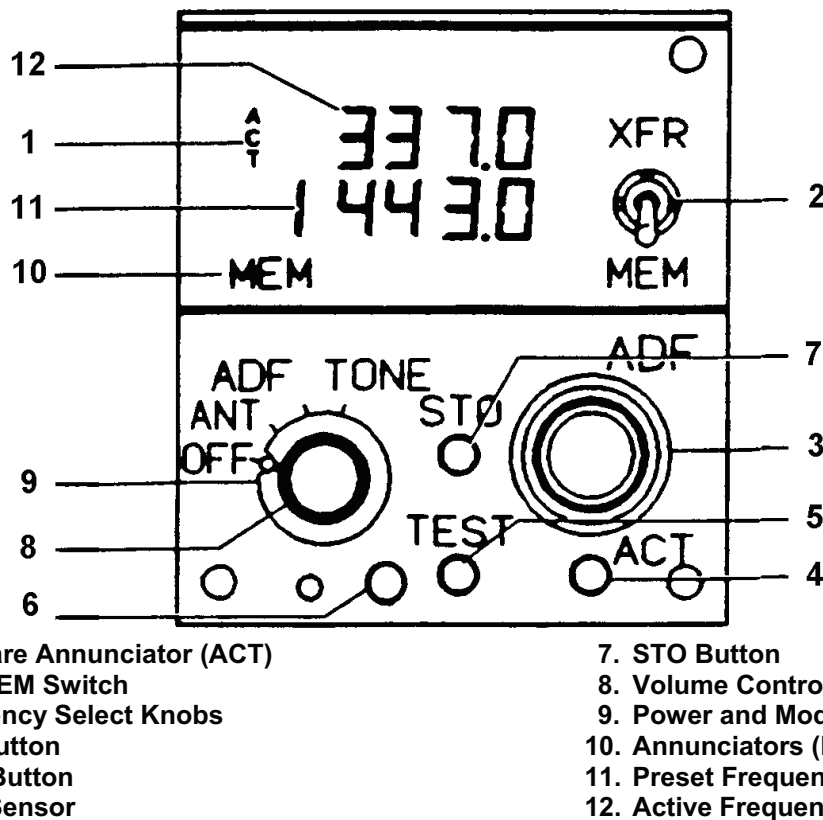

Figure 3C-19. ADF Control
b. Operating Controls and Functions. All operating controls for the ADF-60 system are located on the CTL-62 ADF Control. Refer to Figure 3C-19.